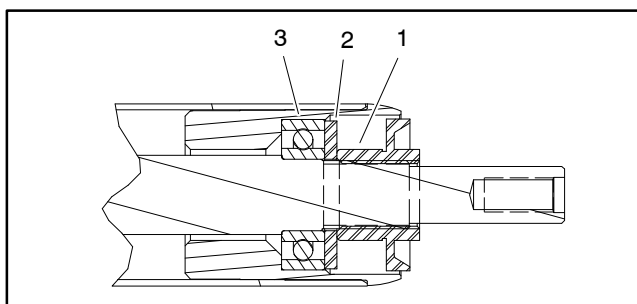

Figure 37
2. Position a new bearing, black assembly washer (see Special Tools) and original lock nut onto each end of the roller shaft (Fig. 37).